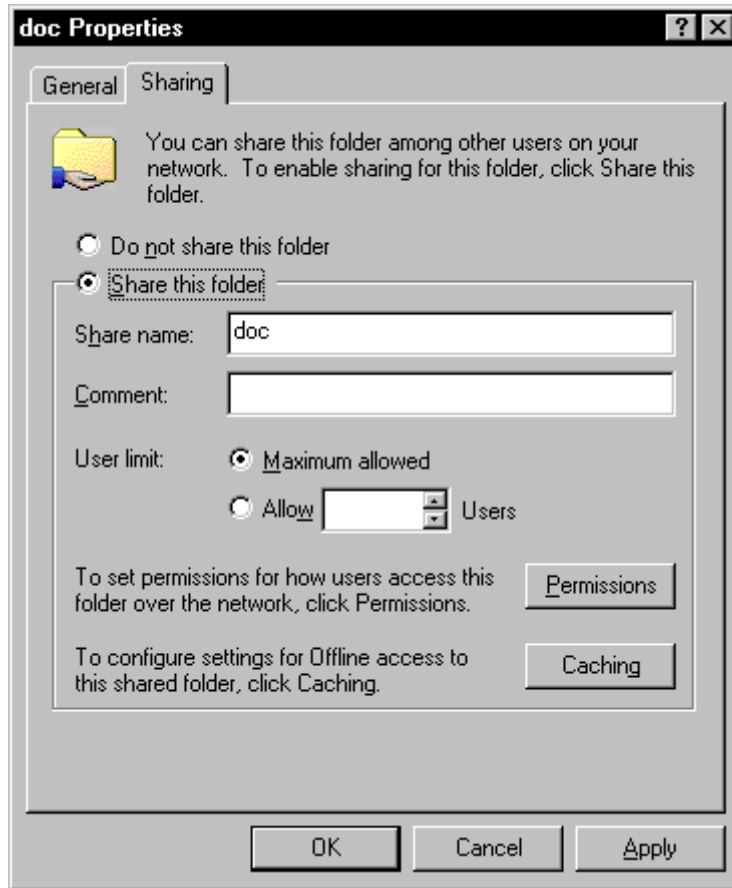

Figure 12-2
2. Right-click the **doc** folder. Select **Sharing** from the drop-down menu. The Sharing tab on the doc properties dialog box is displayed, Figure 12-2.